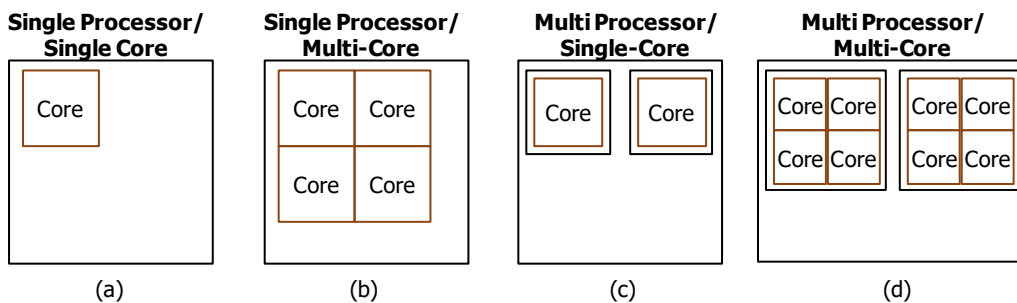

Figure 3. Four system configurations. A processor (single core or multi-core) is contained in a single die or chip package.
- Fig. 3 depicts four different system layouts. In a multi-core processor, the collection of cores constitutes the processor. 2 cores. For multi-processor systems, note that processors do not reside in the same chip package, but they belong to a system.